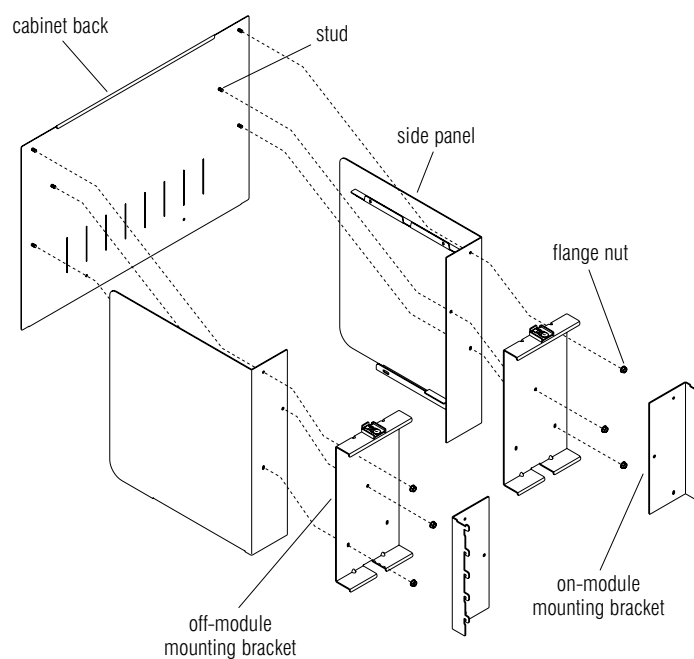

Figure 28
1. Assemble the cabinet back, side panels and mounting brackets (off-module or on-module) together by inserting the holes in the side panels and mounting brackets through the studs on the cabinet back. Loosely fasten the parts together with six flange nuts as shown. To avoid scratching side panels during bottom shelf assembly (step two), do not tighten flange nuts at this time. **Figure 28.**